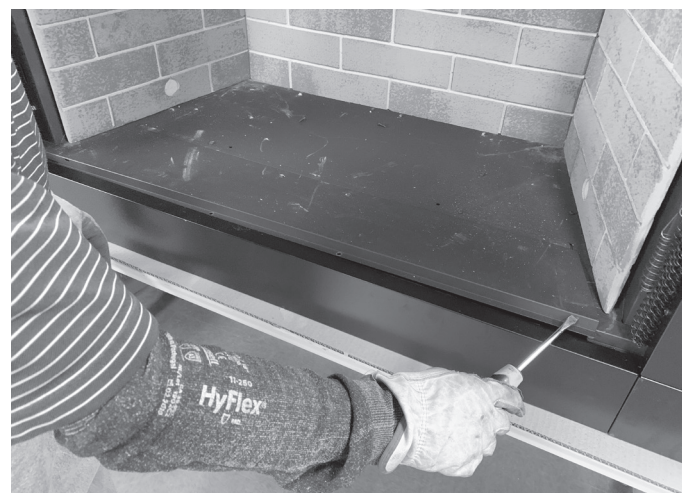

Figure 8.3
2. Using a flat screwdriver, lift gently on Lower Access Panel. See Figure 8.3.